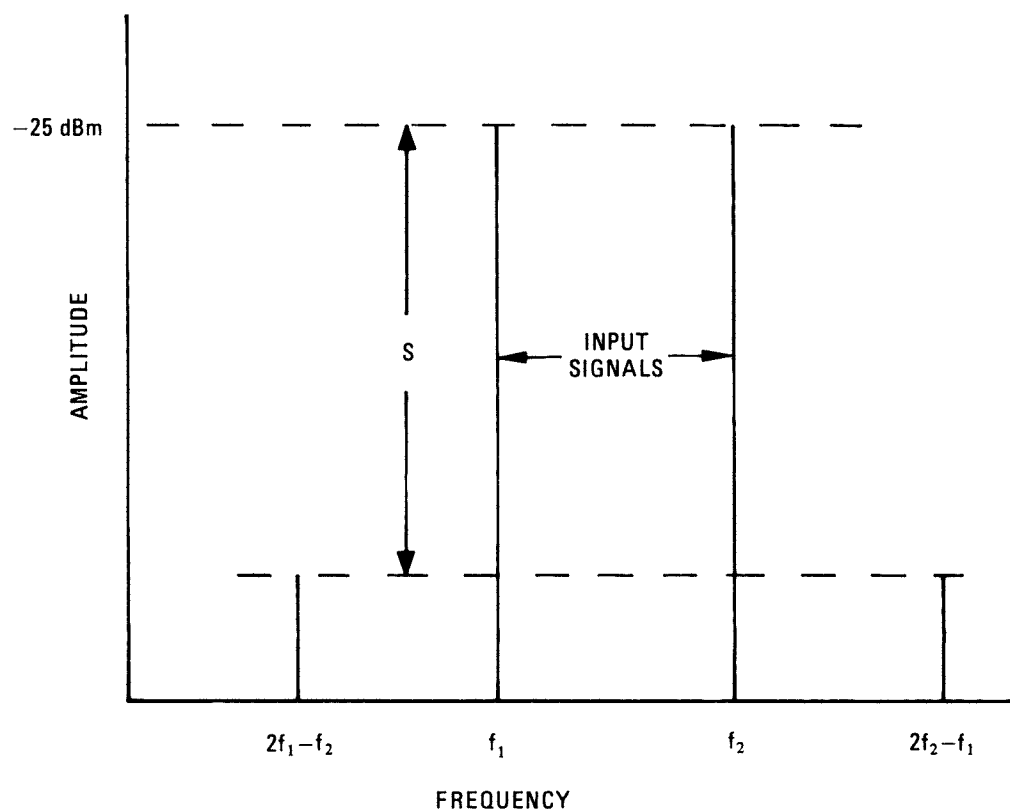

Figure 4-39. Third Order Intermodulation Products
40. The result should be $> +7 \text{ dBm}$. Refer to Figure 4-39.